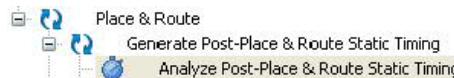

Figure 6-3: Analyze Post-Place & Route Static Timing
- Implement the design by double-clicking the **Place & Route** process in the Processes pane, as shown in Figure 6-3.